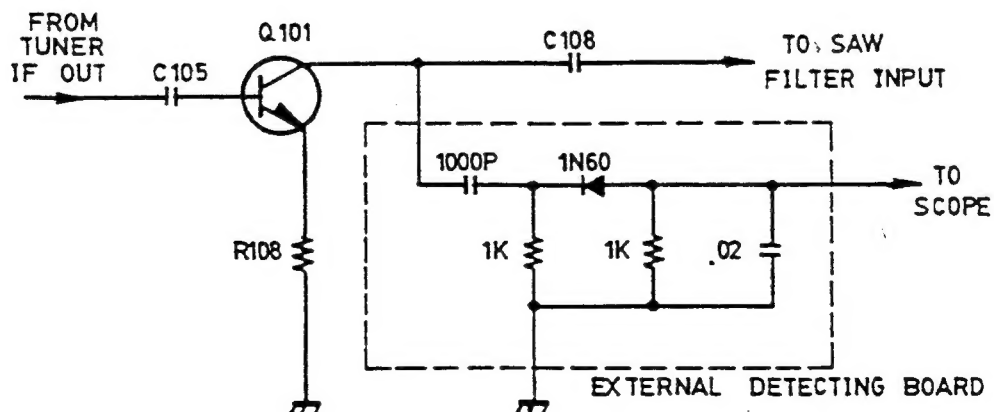

Fig. 9
2. Connector the external detecting circuit between the syncoscilloscope input and TP 101 (Q101 — Collector). (See Fig. 9.).